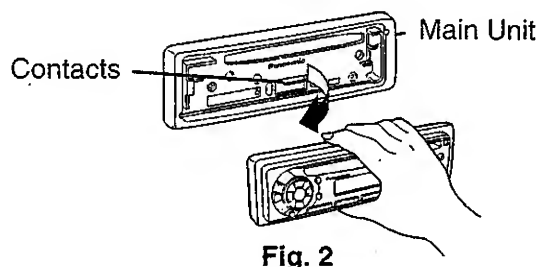

Fig. 2
- ③ Remove the removable face plate by pulling on the right side of the unit. (⇒ Fig. 2)